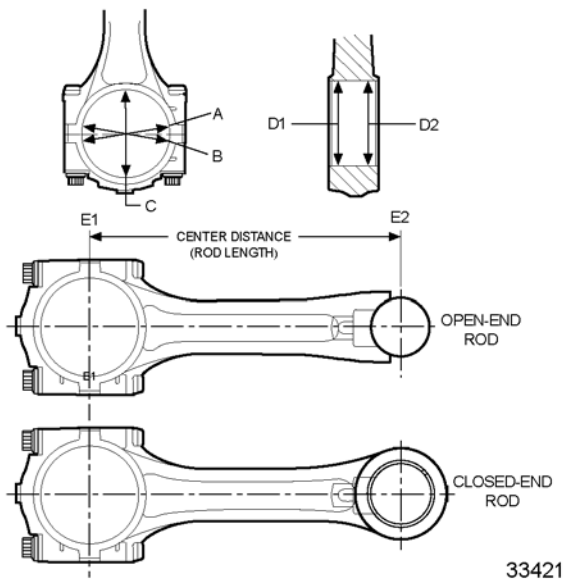

Figure 1 Dimensional Inspection of Connecting Rods
Measure the connecting rod bearing diameter at five locations. See Figure 1.
5. Determine the rod length by finding the distance between E1 and E2. See Figure 1.